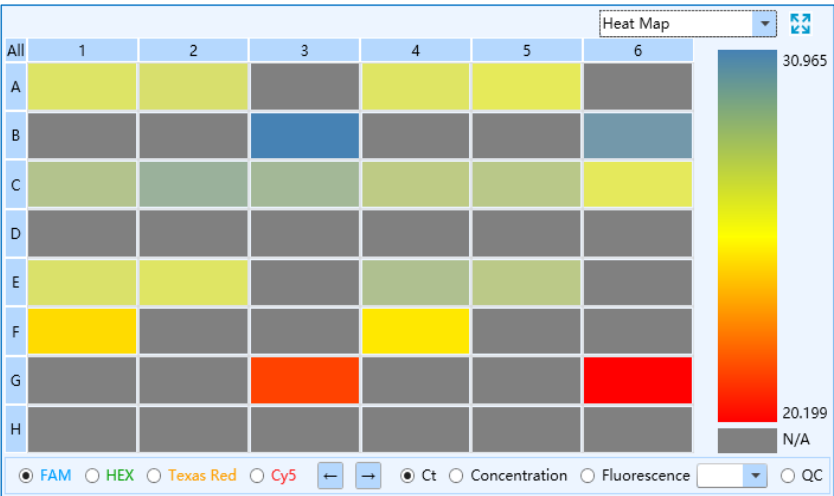

Figure D-7.6 Run Monitoring interface - Heat Map function module
6. **Heat Map:** display the real-time fluorescence heat map of the current running experiment, as shown in figure D-7.6.